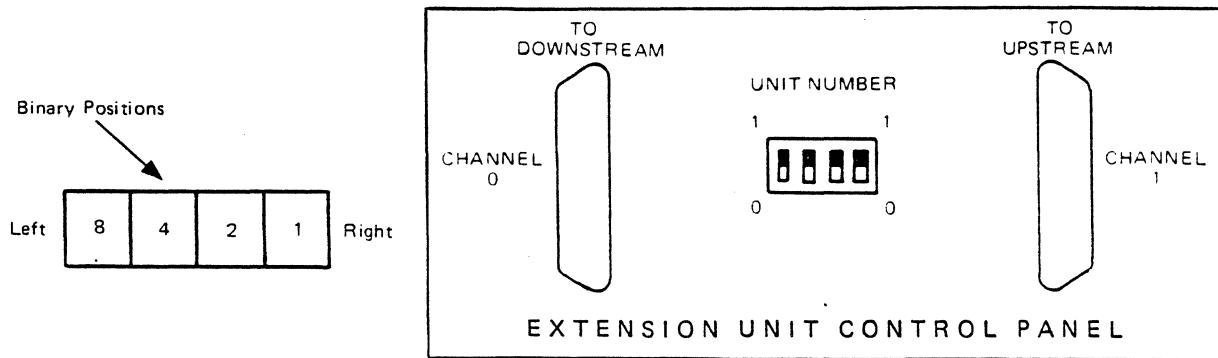

Figure 7-9. Extension Unit Control Panel with Binary Positions
- Set the unit number switch on the Extension Unit Control panel(s) sequentially 0 through F with the base unit being 0 (Figure 7-9).